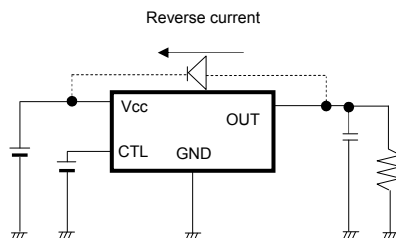

Fig. 36: Bypass diode
2) This IC is bipolar IC that has a P-board (substrate) and P+ isolation layer between each device, as shown in Fig.36. A P-N junction is formed between this P-layer and the N-layer of each device, and the P-N junction operates as a parasitic diode when the electric potential relationship is $GND > \text{Terminal A}$, $GND > \text{Terminal B}$, while it operates as a parasitic transistor when the electric potential relationship is $\text{Terminal B} > GND > \text{Terminal A}$. Parasitic devices are structurally inevitable in the IC. The operation of parasitic devices induces mutual interference between circuits, causing malfunctions and eventually the destruction of the IC. It is necessary to be careful not to use the IC in ways that would cause parasitic elements to operate. For example, applying a voltage that is lower than the GND (P-board) to the input terminal.